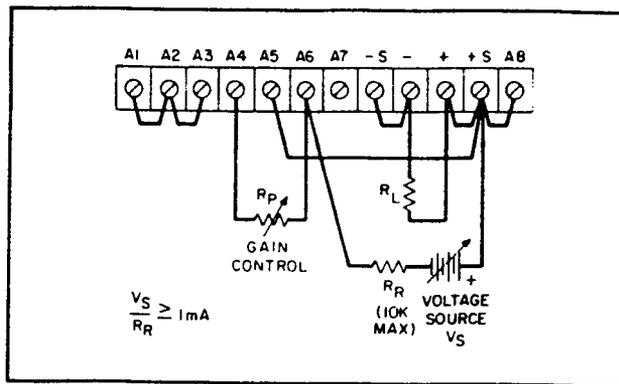

Figure 3-8. Remote Voltage Programming, Constant Current (Variable Gain)
3-58 Voltage Programming, Variable Gain (Figure 3-8). The power supply output current can be programmed with variable gain using an external voltage source by utilizing the strapping pattern shown in Figure 3-8. In this mode, the output current is found by multiplying the external voltage source (VS) by  $\left[ \frac{R_p}{(R_R \times K_p)} \right]$ , where Kp is the constant current voltage programming coefficient as given in Paragraph 3-57.